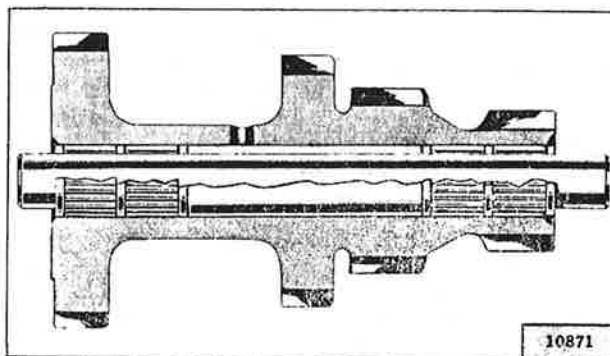

FIG. 188 -- COUNTERSHAFT BEARING SPACERS
c. On all Model CJ-2A and early Model CJ-3A, the countershaft gear assemblies included only four washers. No washers were installed at the ends of the center spacer. On later Model CJ-3A and other models listed above, a shorter spacer and two additional washers shown in Fig. 188 were used. When a transmission of the earlier type is disassembled, a change to the shorter center spacer and addition of the two washers upon reassembly is recommended.